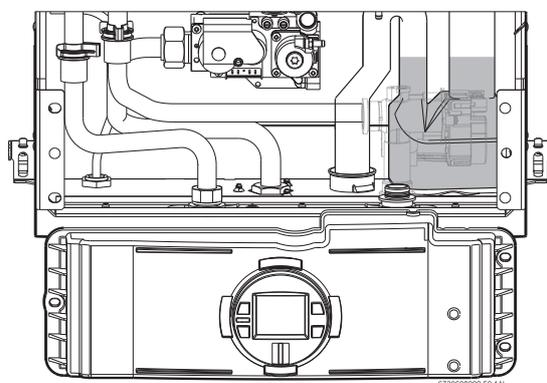

Fig. 34 Water level in condensate trap
- ▶ Put the control unit in service position by engaging its tabs with the holes in the bottom horizontal sheet metal, see Fig. 34.